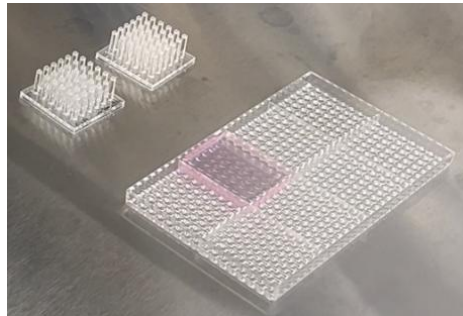

Figure 6. Dispensing 1.5 - 2 mL of the cell-Matrigel-alginate mixture per block in the LoadingPlate for rapid loading of the cells on the pillar plate.
18. Place the LoadingPlate on a flat surface, dispense 1.5 - 2 mL of the cell-Matrigel-alginate mixture per small block without big bubbles, and spread it properly with the pipette tip (**Fig. 6**).